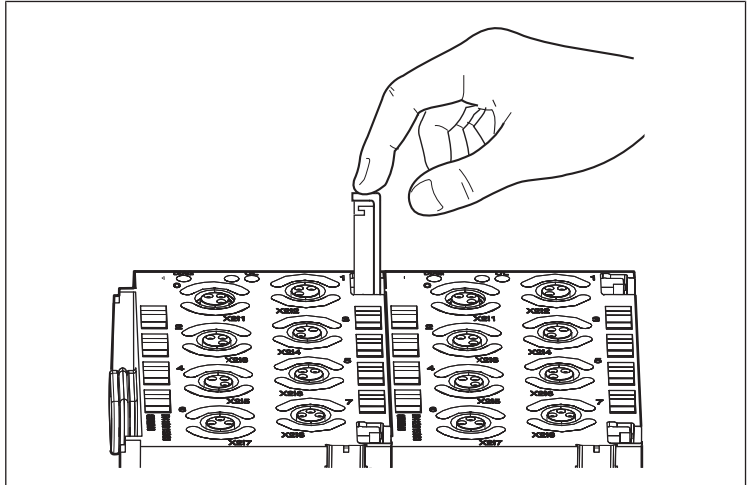

Fig. 11: Press down the spring clamp element
5. Press down both spring clamp elements until the stop (see Fig. 11: Press down the spring clamp element). The module is now connected with the unit.